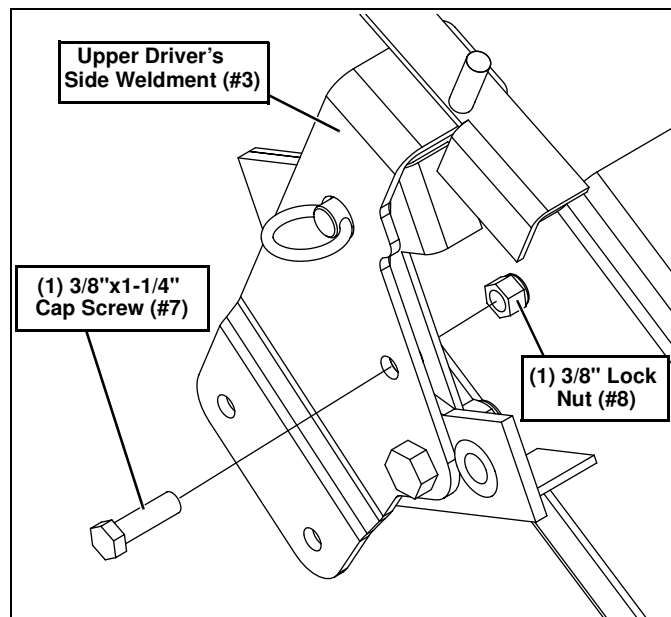

Figure 8
16. Install 3/8x1-1/4" Cap Screw (#7) and 3/8" lock nut (#8) in location shown. (See Figure 8.)